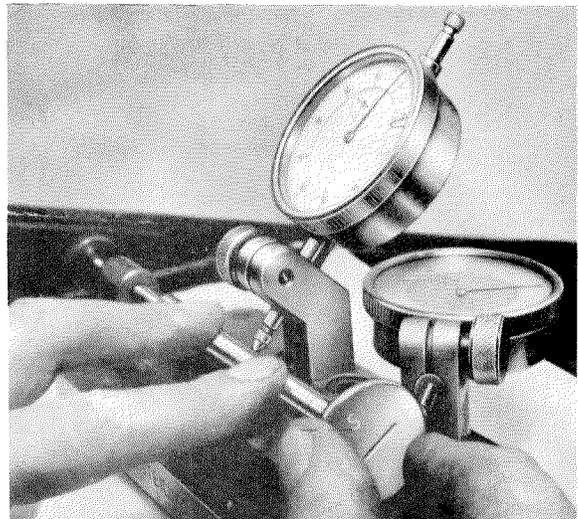

Figure 05-13/2
2. Grind the valve cone on a valve seat grinder to an angle of  $90^\circ + 30'$  without chatter marks (see Figure 05-13/3).